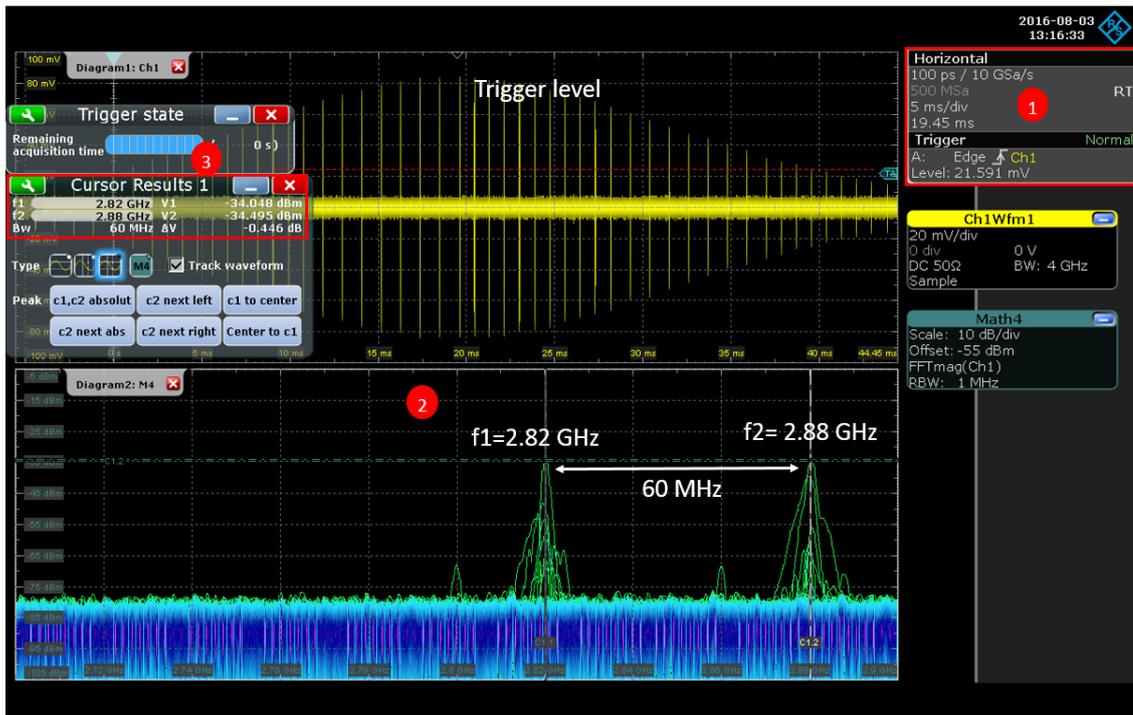

Figure 31: Scope Result
2. In this measurement the Diagram2 window shows two carriers in $f_1=2.82$ GHz and $f_2= 2.88$ GHz during a 50 ms acquisition at a span of 200 MHz, see Figure 31. These are the two carrier frequencies between which the RADAR is hopping.